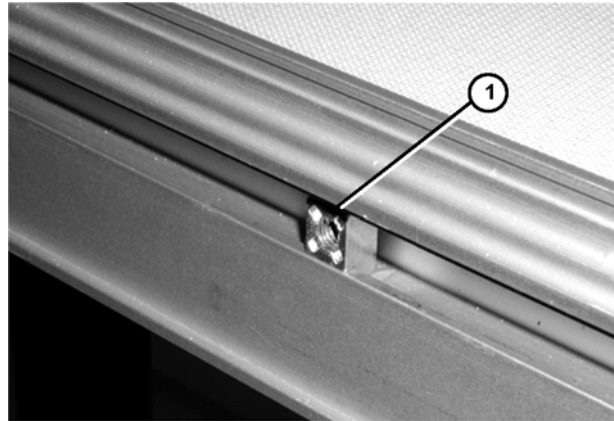

Figure 3
1. Install spring t-nuts (**Figure 3, item 1**) into conveyor t-slot.